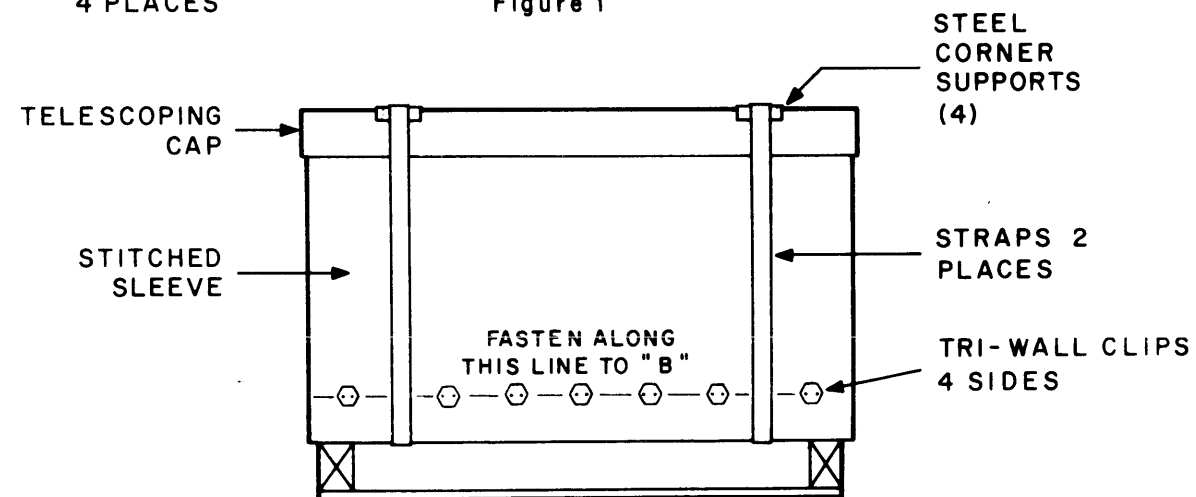

Figure 2
2.	Place the Stitched Sleeve as shown in Figure 2 and fasten it to the skid with Tri-wall clips placed approximately 6 inches apart from each other.
3.	Place the telescoping cap on the sleeve and strap it in two places using steel corner supports on the cap, as shown in Figure 2.